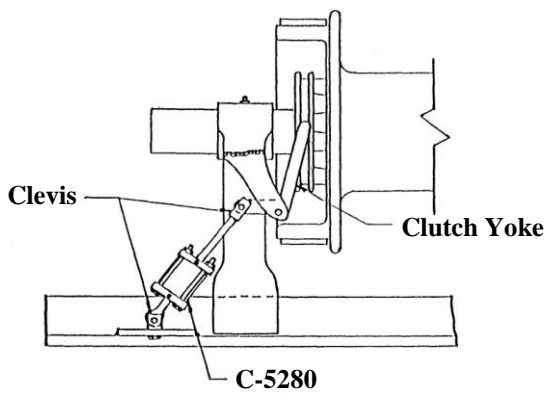

Figure 2
1. Insure Clutch is engaged. Pin Piston Rod Clevis to Clutch Yoke as shown in Figure 2.